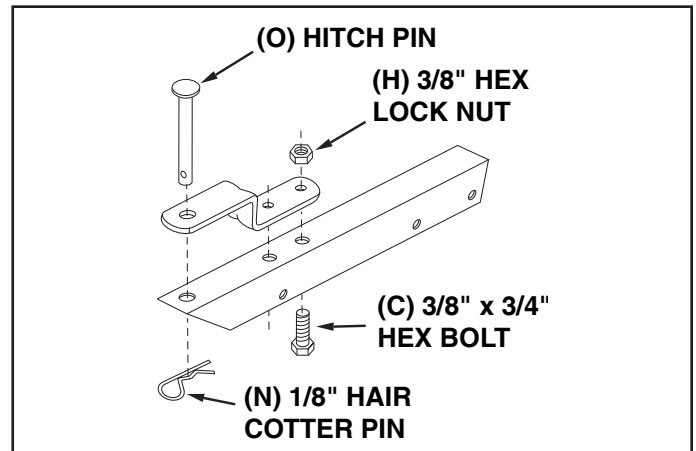

FIGURE 13
- Assemble the hitch bracket to the hitch extension bracket using two 3/8" x 3/4" hex bolts (C) and 3/8" hex lock nuts (H). Insert the bolts from the bottom. See figure 13.
- Assemble the hitch pin (O) through the hitch bracket and the hitch extension bracket and secure with the hair cotter pin (N). See figure 13.